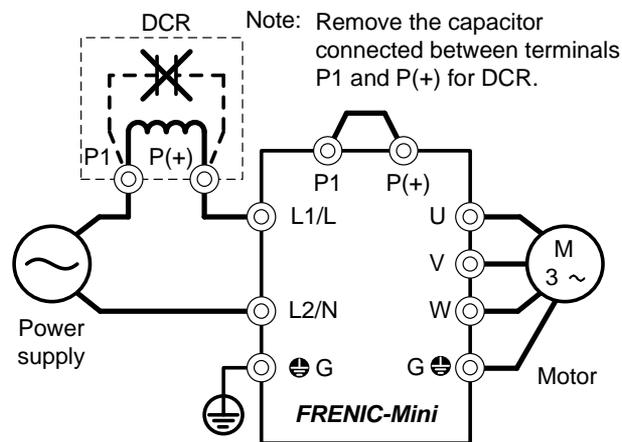

Figure 10.1 Connection Diagram of DC Reactor (DCR) (For single-phase 100 V)
- (Note 2) A magnetic contactor (MC) should, if necessary, be mounted independent of the MCCB or ELCB to cut off the power fed to the inverter. Refer to page 9-1 for details. MCs or solenoids that will be installed close to the inverter require surge absorbers to be connected in parallel to their coils.
- (Note 3) When connecting a DC reactor (option), remove the jumper bar from terminals [P1] and [P+]. Note that the terminal assignment of single-phase 100 V class series of inverters differs that of the above diagram. For details about the terminal assignment, see Figure 10.1 "Connection Diagram of DC reactor (DCR)" in Chapter 10.